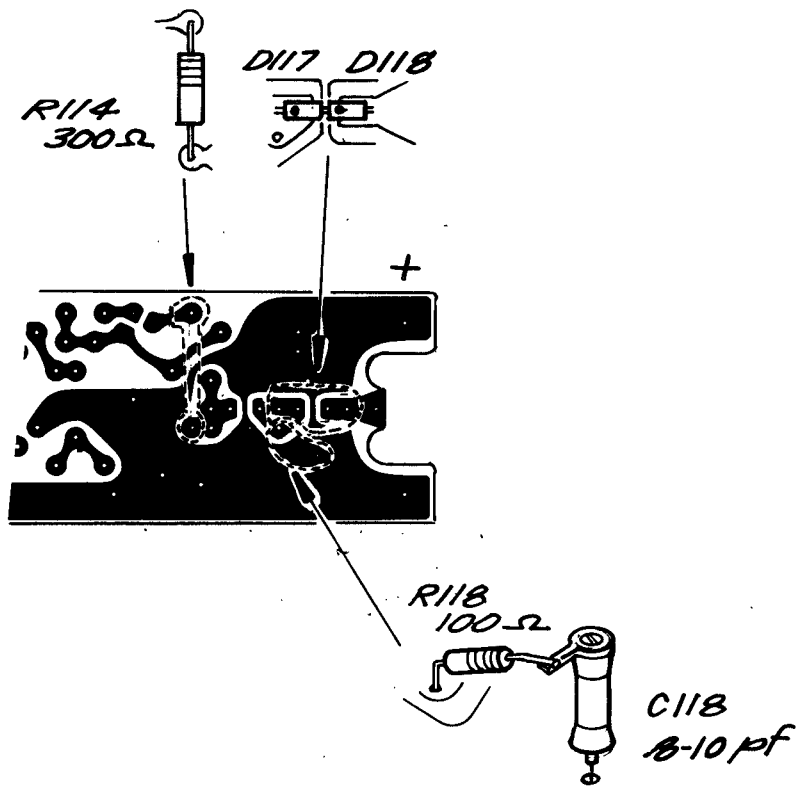

FIG. 1
TO REPLACE D117-D118 ON THE + FAST RISE OUTPUT BOARD. SEE FIG. 1.
- () 7.⊕ Install D117-D118, two clip mounted silicon diodes. Install with cathodes (dots) as shown in Fig. 1.